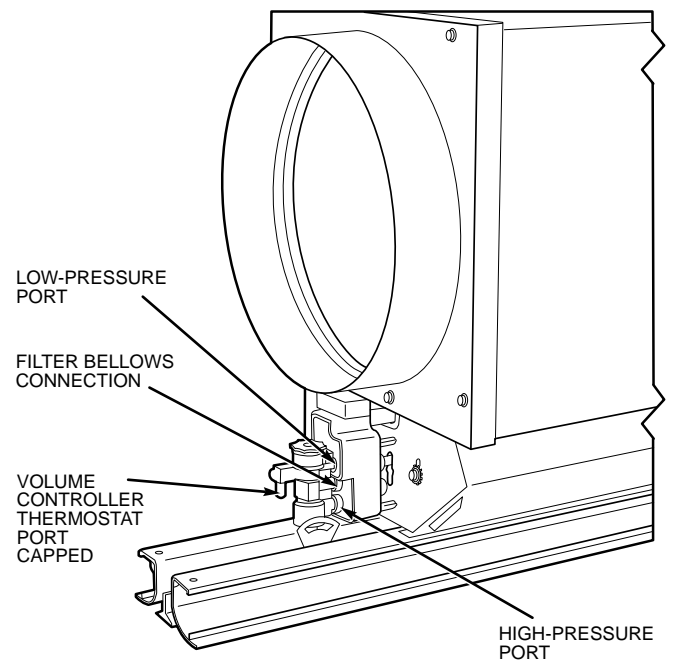

Fig. 10 — Constant Volume Control Installed on Unit
6. To complete installation, moisten the O-rings of the volume controller directly into the control filter. See Fig. 10 and 11.